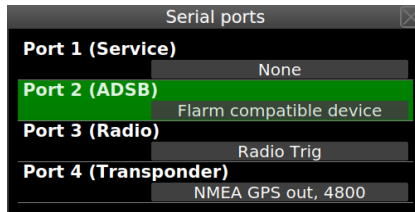

Figure 35: Serial port configuration window.
4. Select the *Serial ports* item. Figure 35 illustrates the window.
Configure the transponder RS-232 part to *NMEA* and set data rate to *4800*. Also, set Nesis port to *NMEA GPS out, 4800*, see Figure 35.